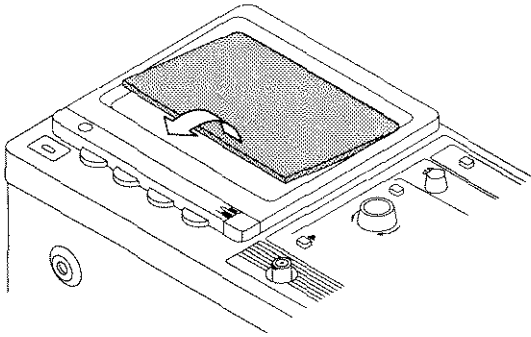

Figure 13: Bezel Replacement (Step 4)
4. Lift the bottom of the bezel and pull it down and out to remove it. Refer to Figure 13.